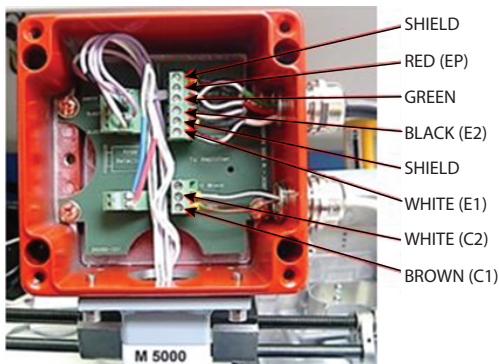

Figure 5: M5000 connector cable wires
7. Attach the white cable wires (the end with the shorter exposed wires) to the 3-pin connector on the junction box circuit board (see Figure 5 for wiring).
9. Attach the black cable wires (the end with the shorter exposed wires) to the 6-pin connector on the junction box circuit board (see Figure 5 for wiring).
14. Plug the detector's electrode and coil terminal blocks into the junction box circuit board (see Figure 5) and tuck wires neatly inside. **DO NOT ROUTE THE WIRES UNDER THE JUNCTION BOX CIRCUIT BOARD!**